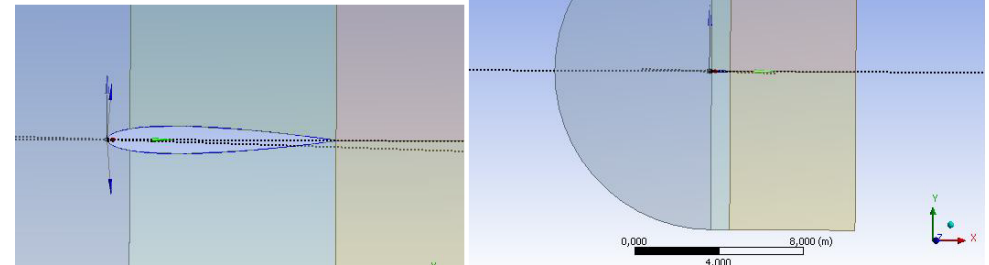

Figure 4: **Fig. 4** The five faces surrounding the airfoil
11. Connect the five faces together to ensure that there are linked together (**Tools/Joint**). See fig. 4